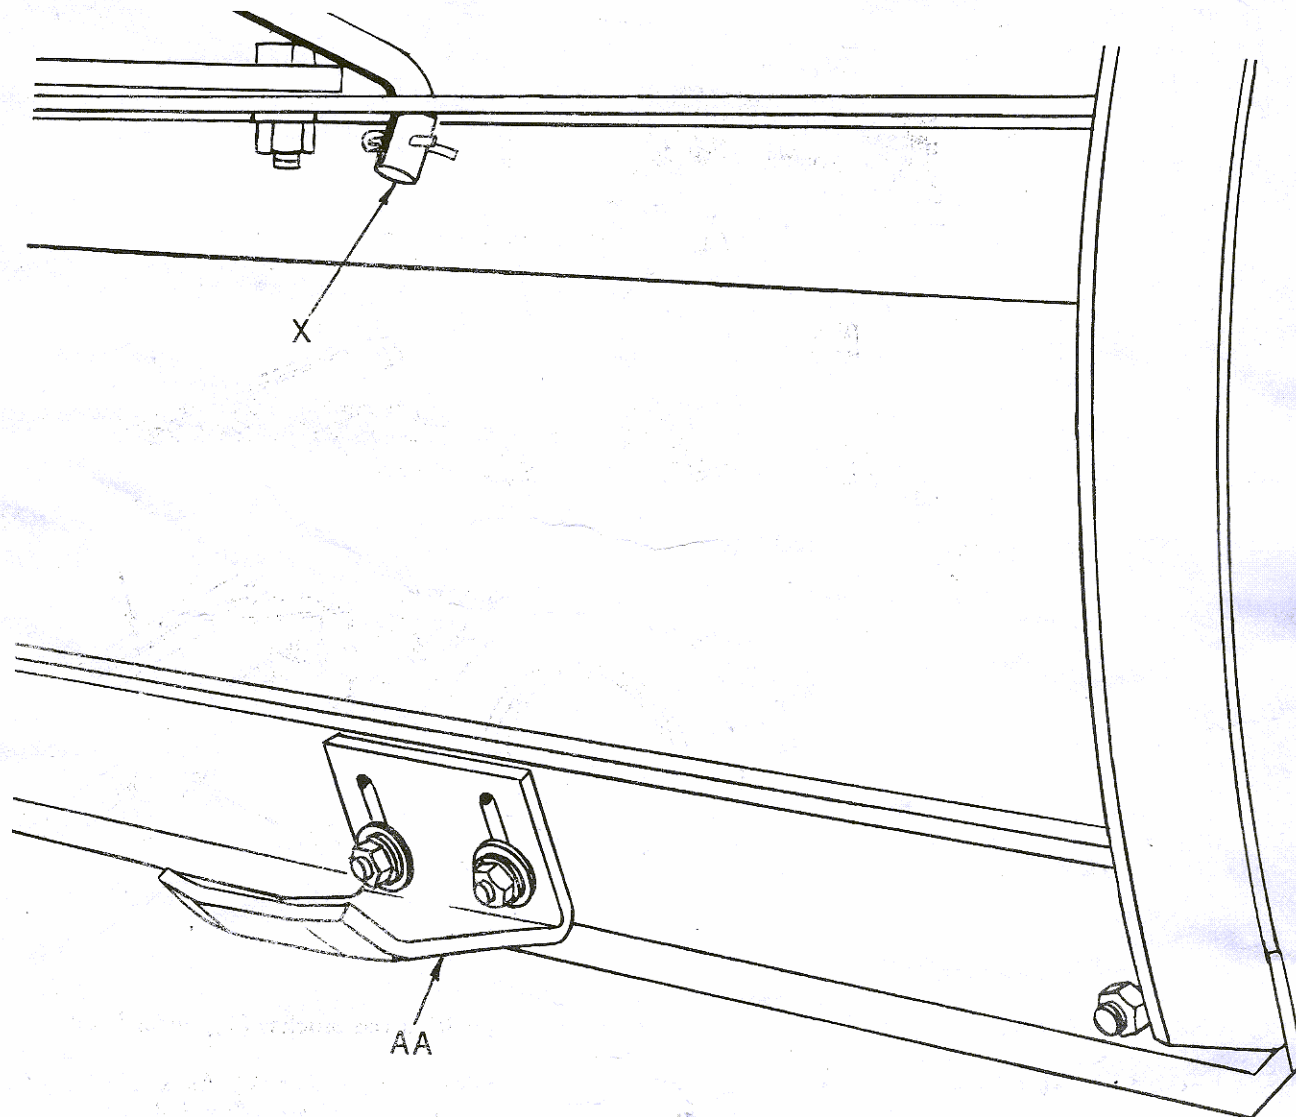

FIGURE 7
The blade shoes (AA) Figure 7, are adjustable for raising or lowering blade edge. When moving material on rough or uneven surfaces, lower blade shoes thus raising the blade edge. After adjustment, always tighten nuts securely.